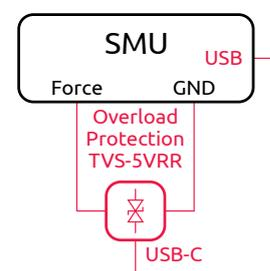

Figure 13: DC test setup
1. Connect the TVS-5VRR to a SMU as shown in Fig. 13. Connect the USB-C port of the TVS-5VRR to any free USB port of the SMU or use a general purpose 5 V USB power supply, e.g. a mobile phone charger.